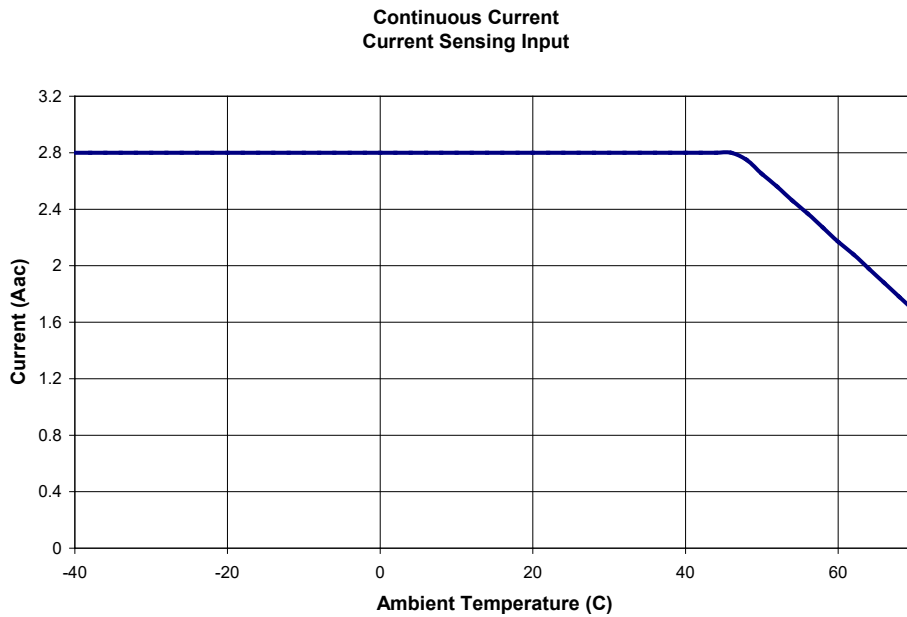

Figure 6-2. Current Sensing Input Derating Curve (BE1-50/51B-234)
* Continuous rating is 2.8 Aac for temperatures up to 45°C. See Figure 6-2 for derating curve.